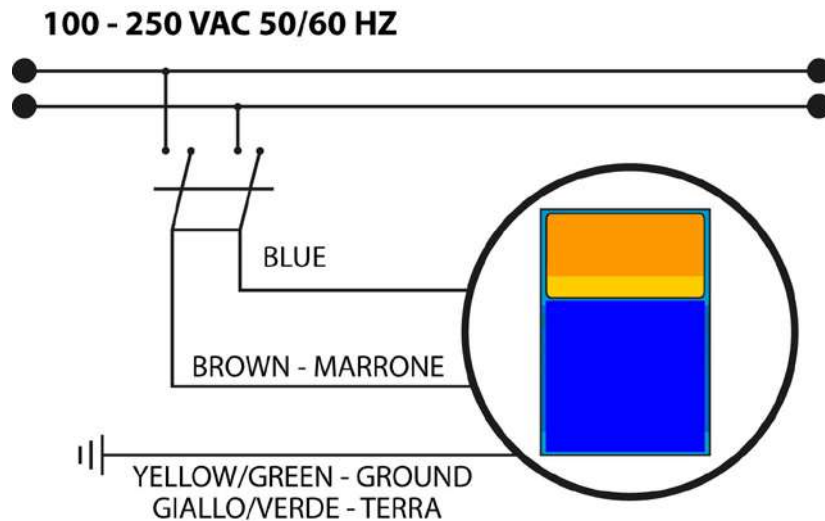

Fig. 2 – Electrical Connection
- Make sure that it is turned off electrically (both polarities) by disconnecting the connection cables from the contact points of the network through the opening of a phase switch with a minimum contact gap of 3 mm (Fig. 2).
Comply with the rules in force in the various countries with respect to the electrical installation. If the power supply cable is devoid of a plug, the equipment must be connected to the mains supply via a double pole isolator switch with a minimum distance between contacts of 3 mm. **Before accessing any of the connection devices, all supply circuits must be interrupted** (Fig. 2).